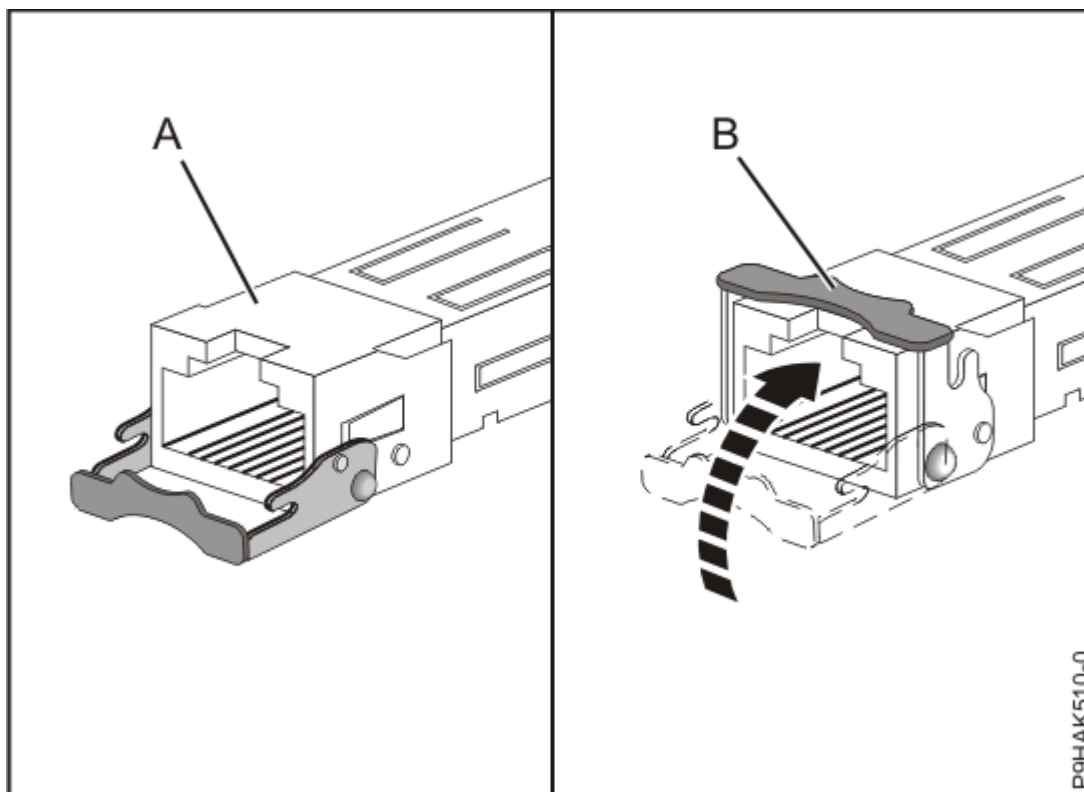

Figure 22. Replacing SFP transceivers in the adapter
- c) With the latch **(B)** in the open position, push the latch by rotating it up and toward the card as shown in Figure 22 on page 28.